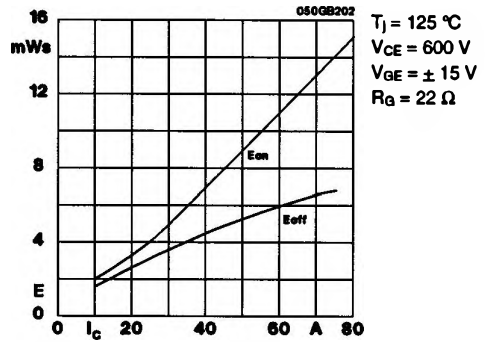

Fig. 2 Turn-on /-off energy = $f(I_c)$
5) See fig. 2 + 3; $R_{Coff} = 27 \text{ } \Omega$